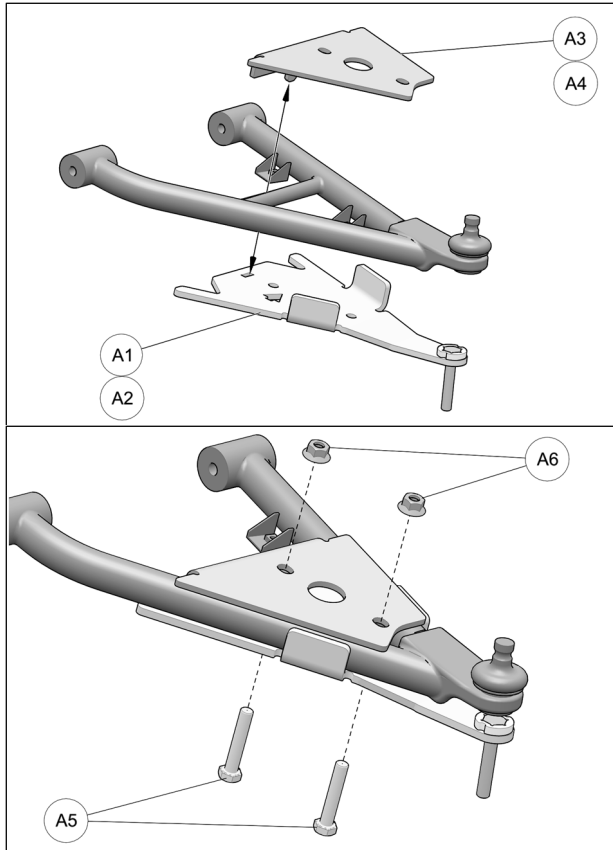

Fig. 13
5. Position bottom part of anchor bracket (**A1-A2**) assembly under front lower suspension arm, as shown in the figure below. Position bracket cover (**A3-A4**) over suspension arm and align holes in cover and bottom part. Insert M10x55mm bolts (**A5**) from the bottom and secure the two parts together with the nuts (**A6**) provided. Tighten assembly to 50 N•m [37 lb•ft] of torque. Refer to Fig. 13